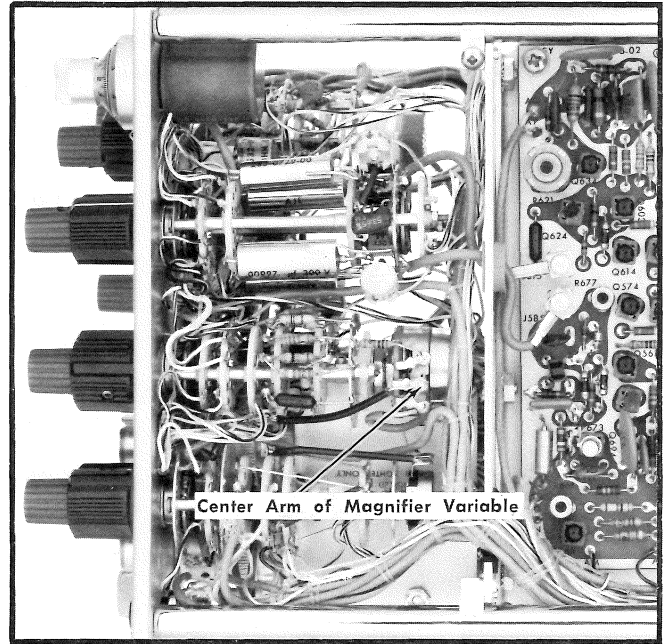

Fig. 7-9. Location of control R641 for steps 6 and 8.
- c. Connect the 10× Probe tip to the center arm of the MAGNIFIER VARIABLE control, R641, shown in Fig. 7-9.